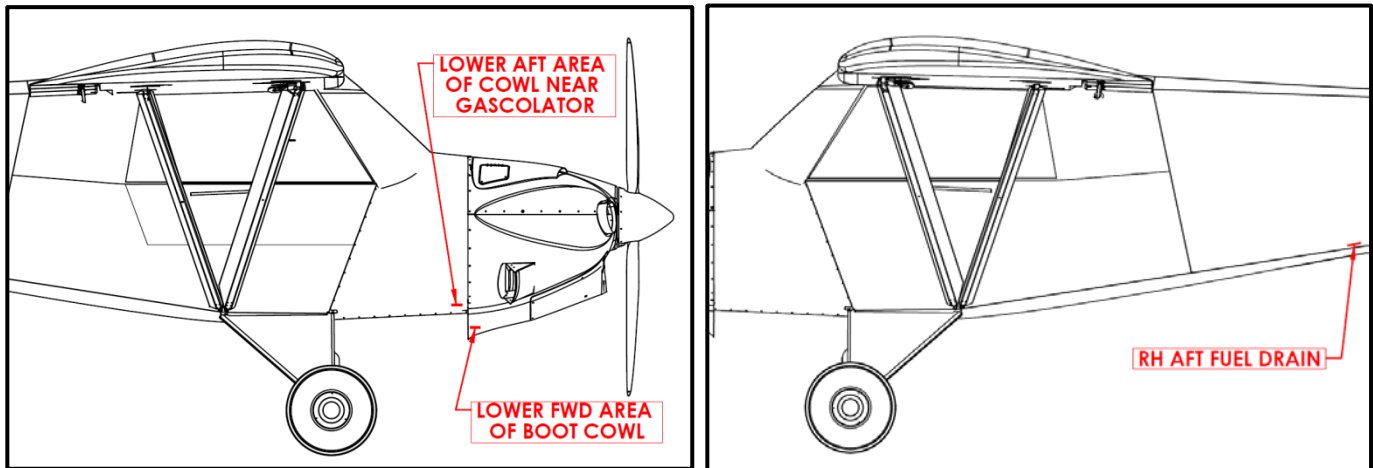

FIGURE 29 – Placard Placement
86. Install fuel drain placards above fuel drain locations shown in Figure 29 below. Ensure surfaces are free of any grease or dirt and are dry prior to installation.